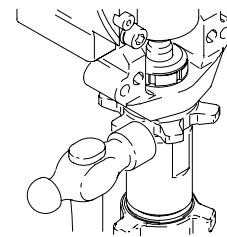

Fig. 20
3. Fig. 20. Screw jam nut down onto pump until nut stops. Screw pump up into bearing housing until it is stopped by jam nut. Back off pump and jam nut to align pump outlet to back. Tighten jam nut by hand, then tap 1/8 to 1/4 turn with a 20 oz hammer to approximately 75 ± 5 ft-lb (102 N·m).